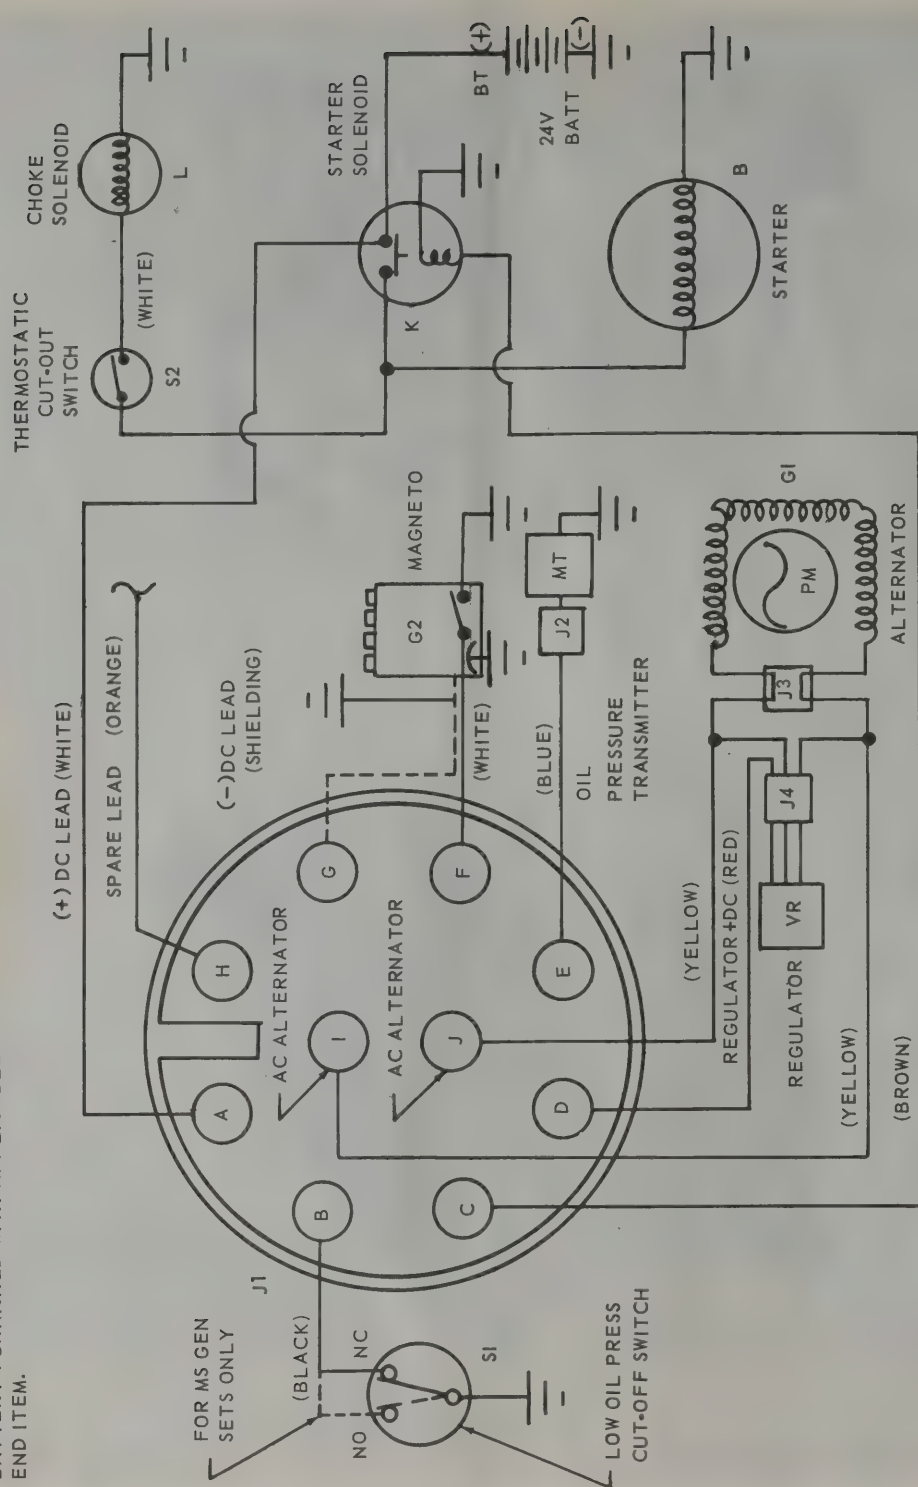

Figure 1-2. Wiring diagram.
(14) *Wiring Diagram*. Refer to figure 1-2.